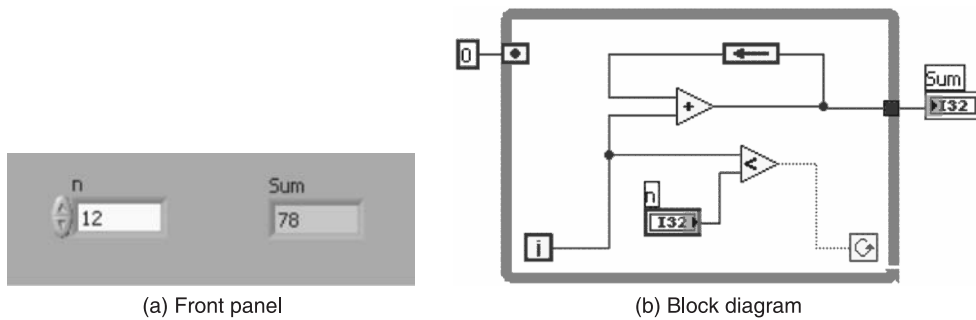

Figure P4.2
**Solution** The front panel and the block diagram to solve the problem are shown in Figures P4.2(a) and P4.2(b). Given a number  $n$ , the sum of first  $n$  natural numbers is obtained when the program is run.